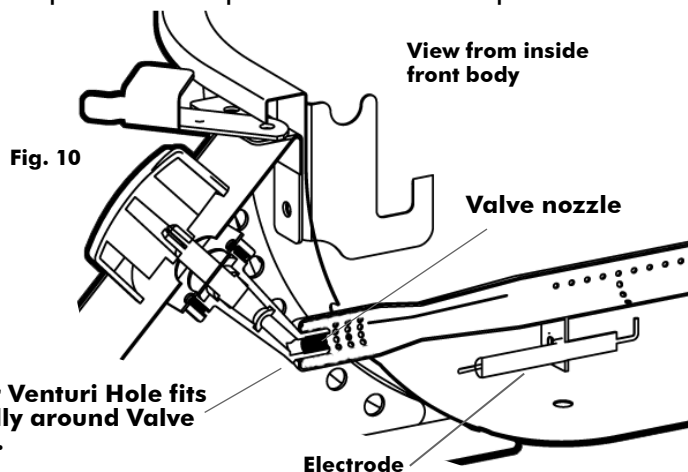

Fig. 10
**NOTE:** When refitting the Burners, be sure both Burners are positioned correctly. The valves should protrude inside the Venturi ends of the Burner. (Fig. 10) Replace the Bolts and Nuts that fasten the Burner Flange to Back Wall.